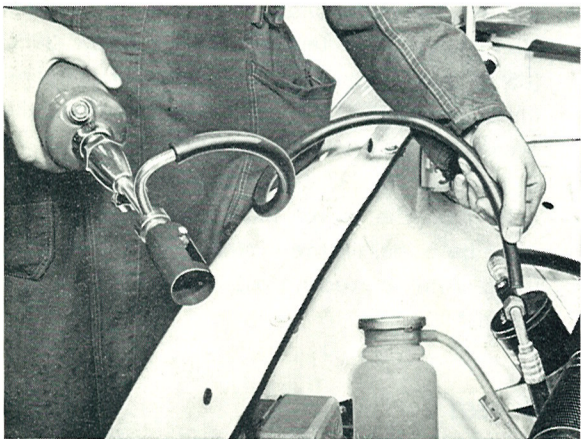

Fig. 8-99. Leakage test
4. Light the leak detector and check the entire system at all the connections by holding the end of the hose next to the connection (Fig. 8-99). If there is leak, the color of the flame will change to blue-green.